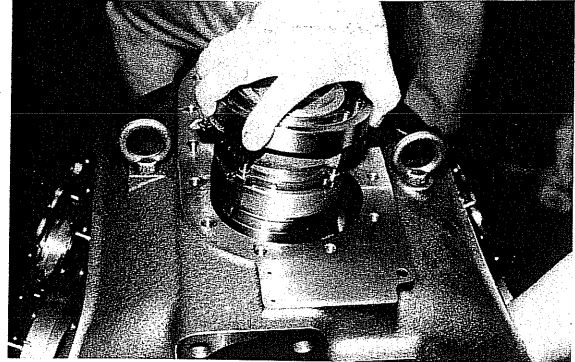

Fig. 39 Removing Cylinder Assembly
- d) Remove the rod cap. Turn the crankshaft slowly so that the next piston is positioned at the bottom dead center point. The cylinder which has been freed from the crankshaft will rise. While holding the rod with one hand inserted through the hand hole to prevent the rod from striking the crankcase, grasp the flanged portion of the cylinder and lift out (Fig. 39~40).